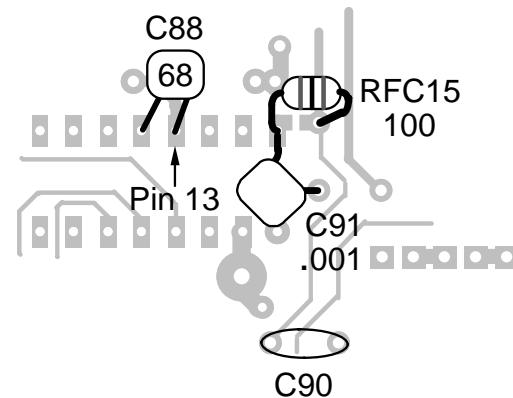

Figure 6-14c
- Solder C91 (.001 µF, "102") to the two pads shown in Figure 6-14c. Use short leads.
- Locate the 100 µH RF choke, RFC15 (brown-black-brown). This choke may be the same size, or nearly so, as the other chokes. When installing adjust the leads to reach the pads shown in Figure 6-14c.
- Locate the crystals used on the RF board: 12.096 MHz (1), 4.9152 MHz for BFO (2) and 4.9136 MHz for crystal filters (7). **Do not mix the BFO and filter crystals, which have different characteristics.**